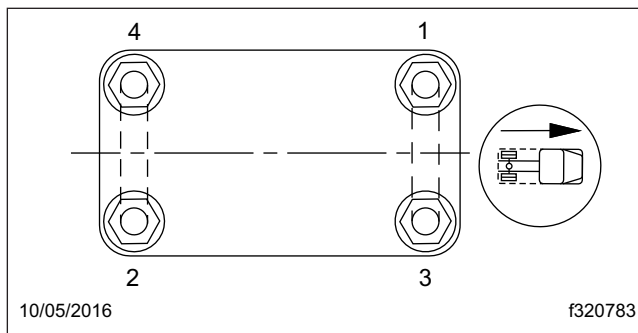

Fig. 11, Tightening Pattern for U-Bolt High Nuts
* Tighten in a diagonal pattern as shown in Fig. 11.